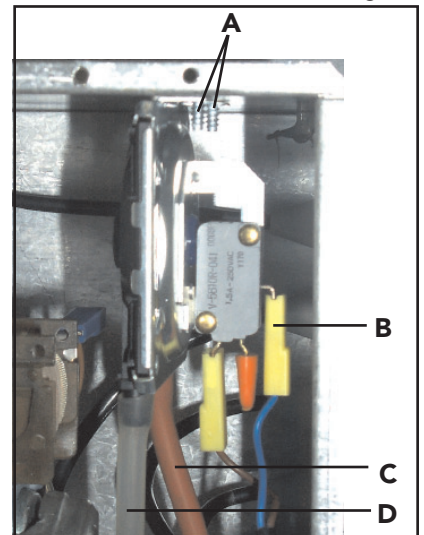

Fig. 24
## **Air pressure switch** (fig. 24).
- Identify the sensor from figure 24